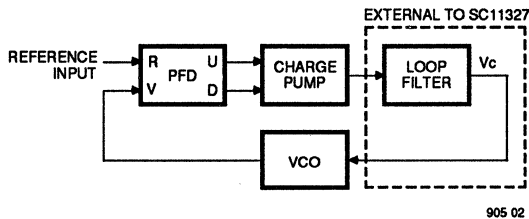

Figure 2. PLL with Three-State Phase Detector and Charge Pump
A filter is added after the charge-pump to smooth the VCO control voltage. Figure 2 shows the complete PLL circuit. The states of the PFD are determined by the edges of the input wave-form. If the R-input (reference) phase leads the V-input (VCO) phase, then an edge of the R input sets the U (up) terminal true. The next V edge resets the U terminal false. Conversely, if V leads R, a V edge sets D (down) true and the next R edge resets D false. Both U and D can be false simultaneously, or either one alone can be true, but both can never be true simultaneously. Therefore a PFD has three allowable states at its output terminals, up (U), down (D) and neutral(N).